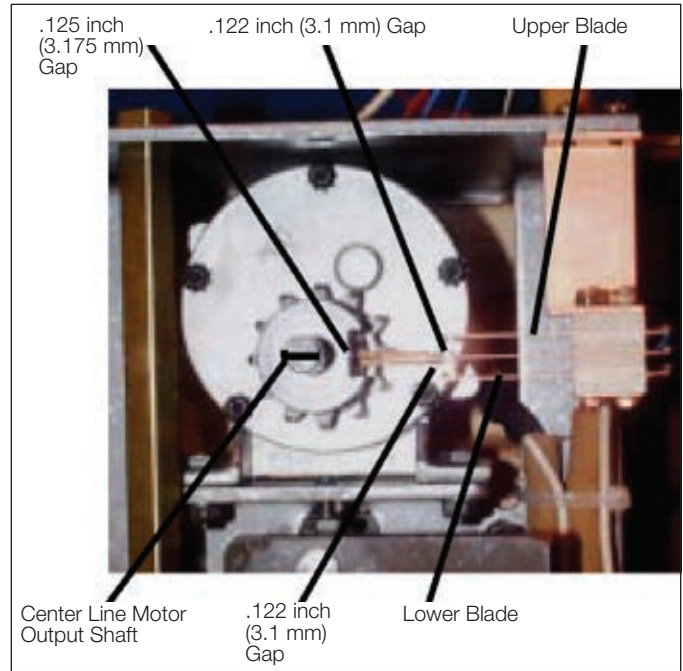

Figure 5.
- b. Using a pair of needle nose pliers, place the pliers on the upper blade next to the holding switch insulators. See Figure 5. Bend the blade either up or down to adjust the gap to the gauge pin.